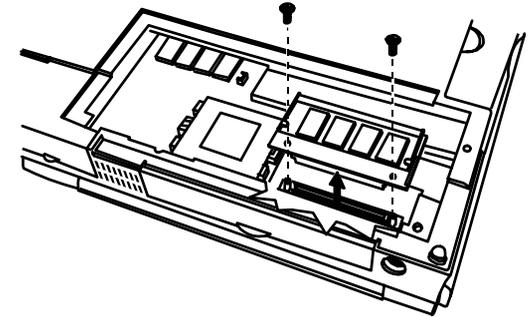

Figure 7-19. Removing the Memory Card Screws
1. REPLACE THE MEMORY CARD BY PLUGGING THE CONNECTOR AND SECURING WITH TWO SCREW. (ref fig 7-19)